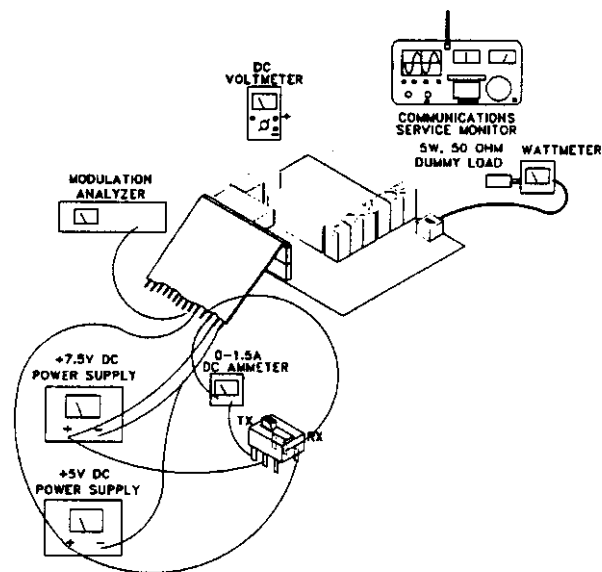

Figure 6-1 TRANSMITTER TEST SETUP
1. Connect the test setup shown in Figure 6-1. Set the power supply for +7.5V DC.
1. Connect the test setup shown in Figure 6-1. A DC ammeter capable of measuring up to 1.5A should be installed in the supply line.
1. Connect the test setup shown in Figure 6-1.